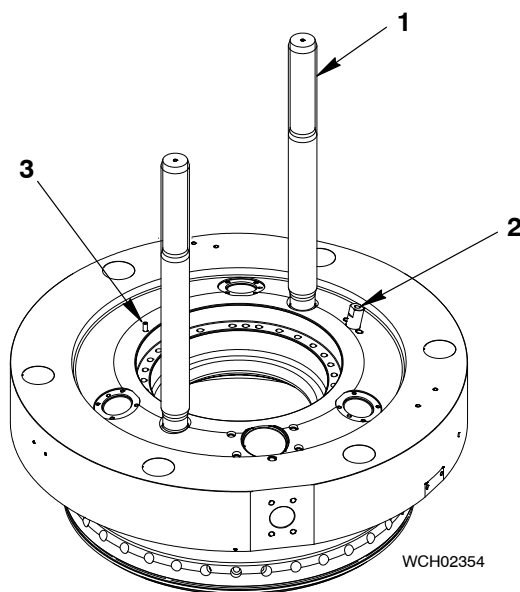

Fig. 5
**Note:** When you do the step 12), make sure that you do not damage the threads of the elastic studs (1, Fig. 5).